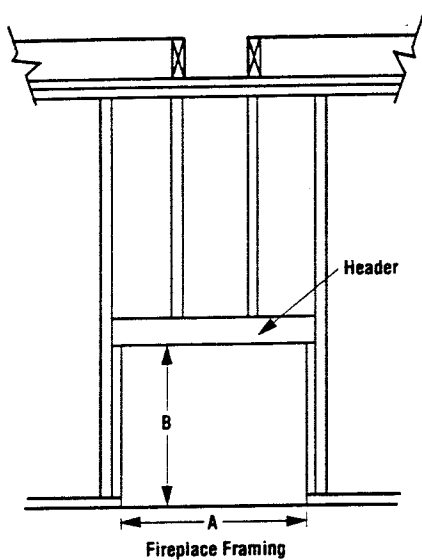

Figure 3
Step 1. Frame appliance enclosure as illustrated in *Figures 3 through 7* on page 4.